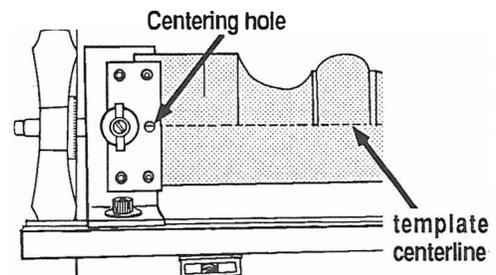

Fig. C-13
**11. Align the template.** Align the template holes with the centering hole in each template clamp (5). See Fig. C-13. To align the template easily and exactly, insert a 1/4" dowel through the centering hole in each clamp (5) to engage the template hole. Use the 5/32" Allen wrench to tighten the two rear setscrews (4), one in each template clamp.